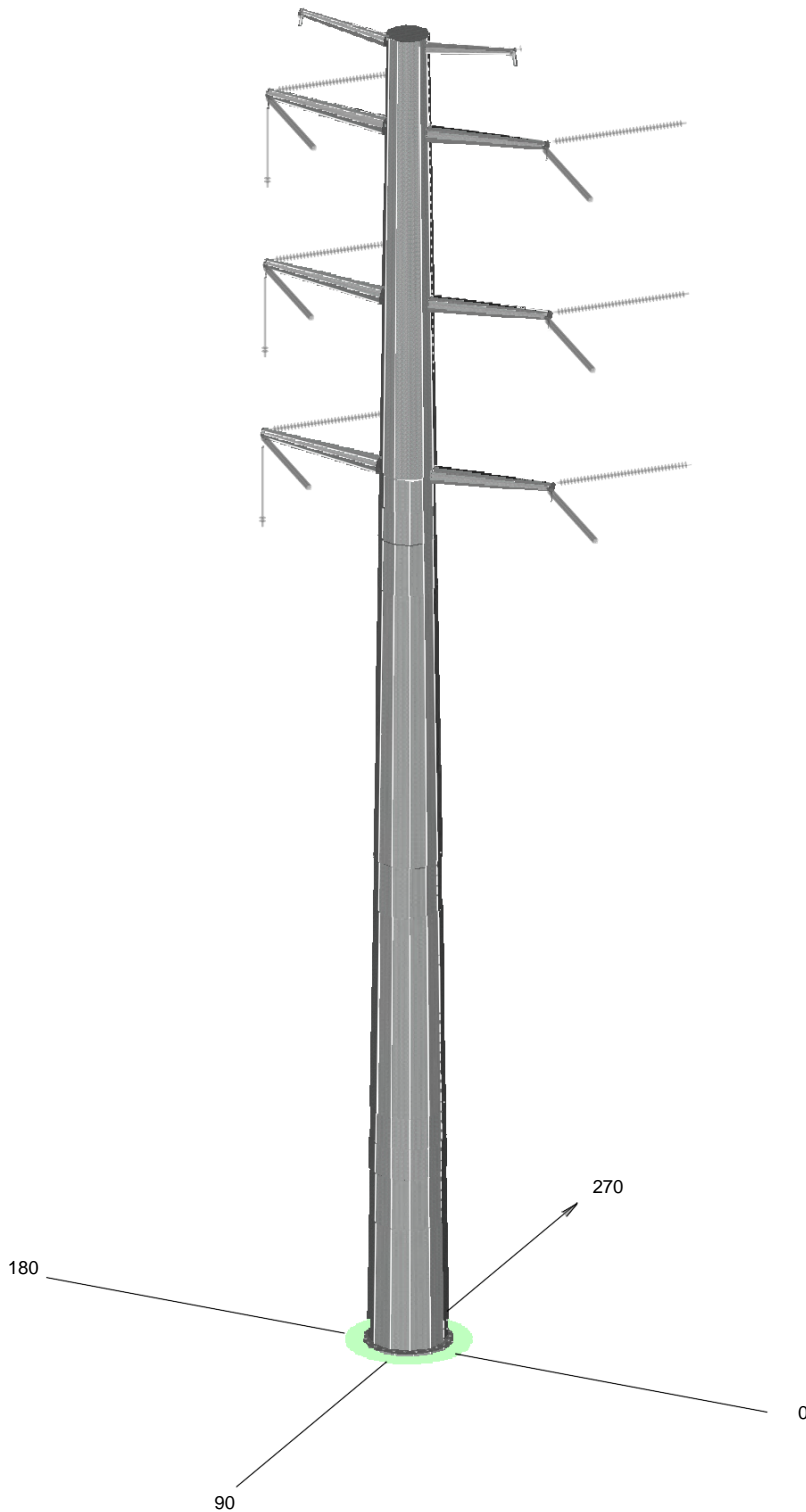

FIGURE G-11
- Figure G-11: Single-Circuit 230 kV Single-Pole, Dead-End, Vertical Configuration on Davit Arms with Strain Insulators